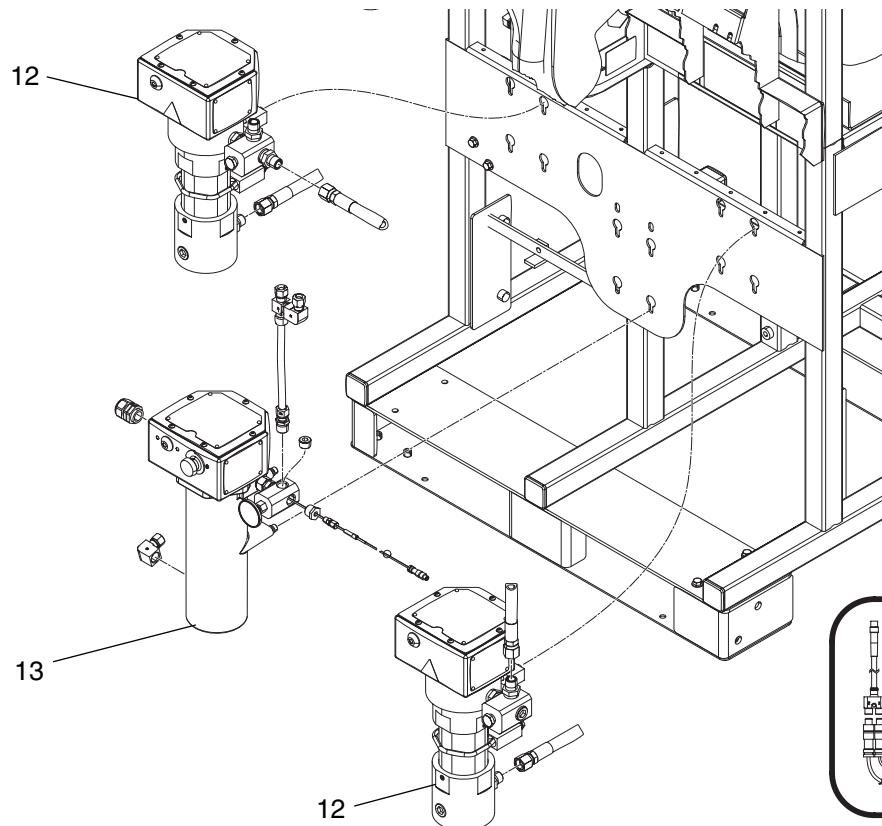

FIG. 8: Heaters on System Module
3. *System Module Heaters:* See FIG. 8. Loosen four mounting screws, lock washers, and plain washers on back of heater (12 or 13) that secure it to the system frame. Slide heater up and remove from mounting plate.
4. *Feed Module Heaters:* See page 41. Remove 2 screws (224) then remove heater (226) from feed module frame.